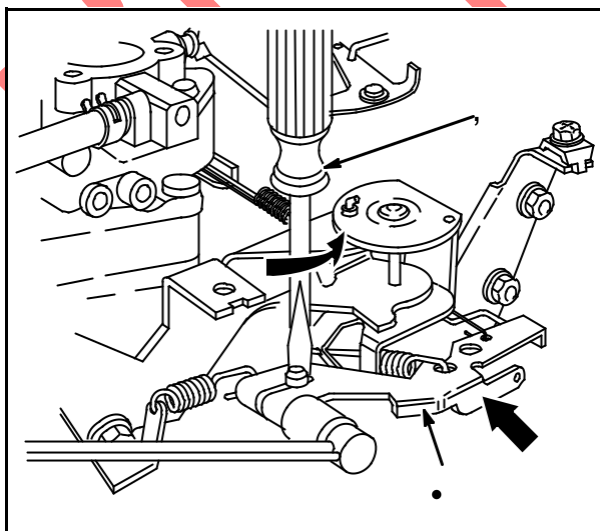

Fig. 30
Loosen governor lever nut. Push on governor lever (1) until throttle is wide open, **Fig. 30**.